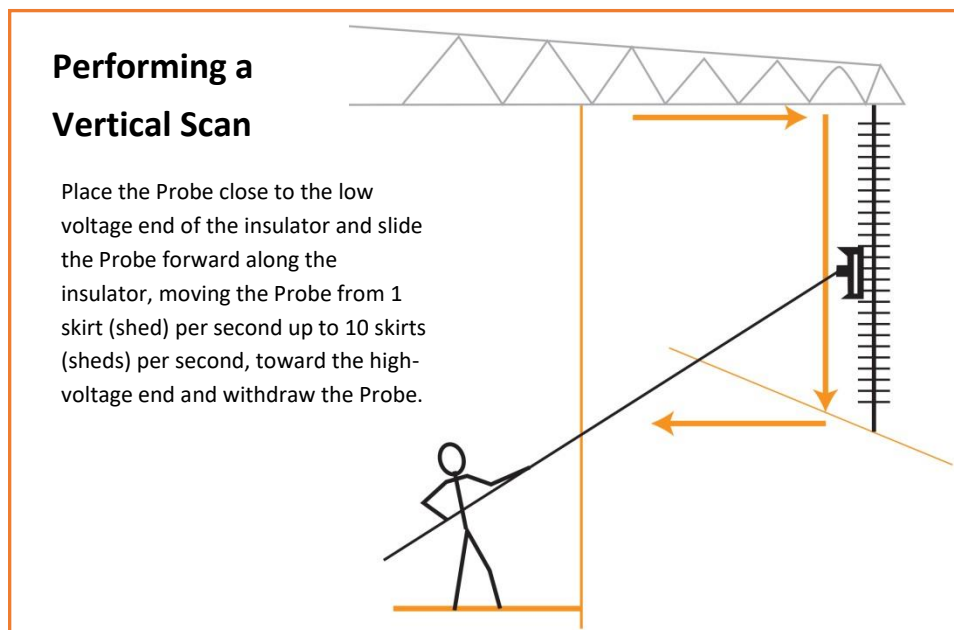

Figure 16
1. Following the instructions of the Tablet Operator, if the LED is not flashing, press the Push-button on the Probe (See Figure 15) and place the Insulator Tester against the insulator nearest possible to the low voltage end of the Composite (Polymeric) insulator, per Figure 16.